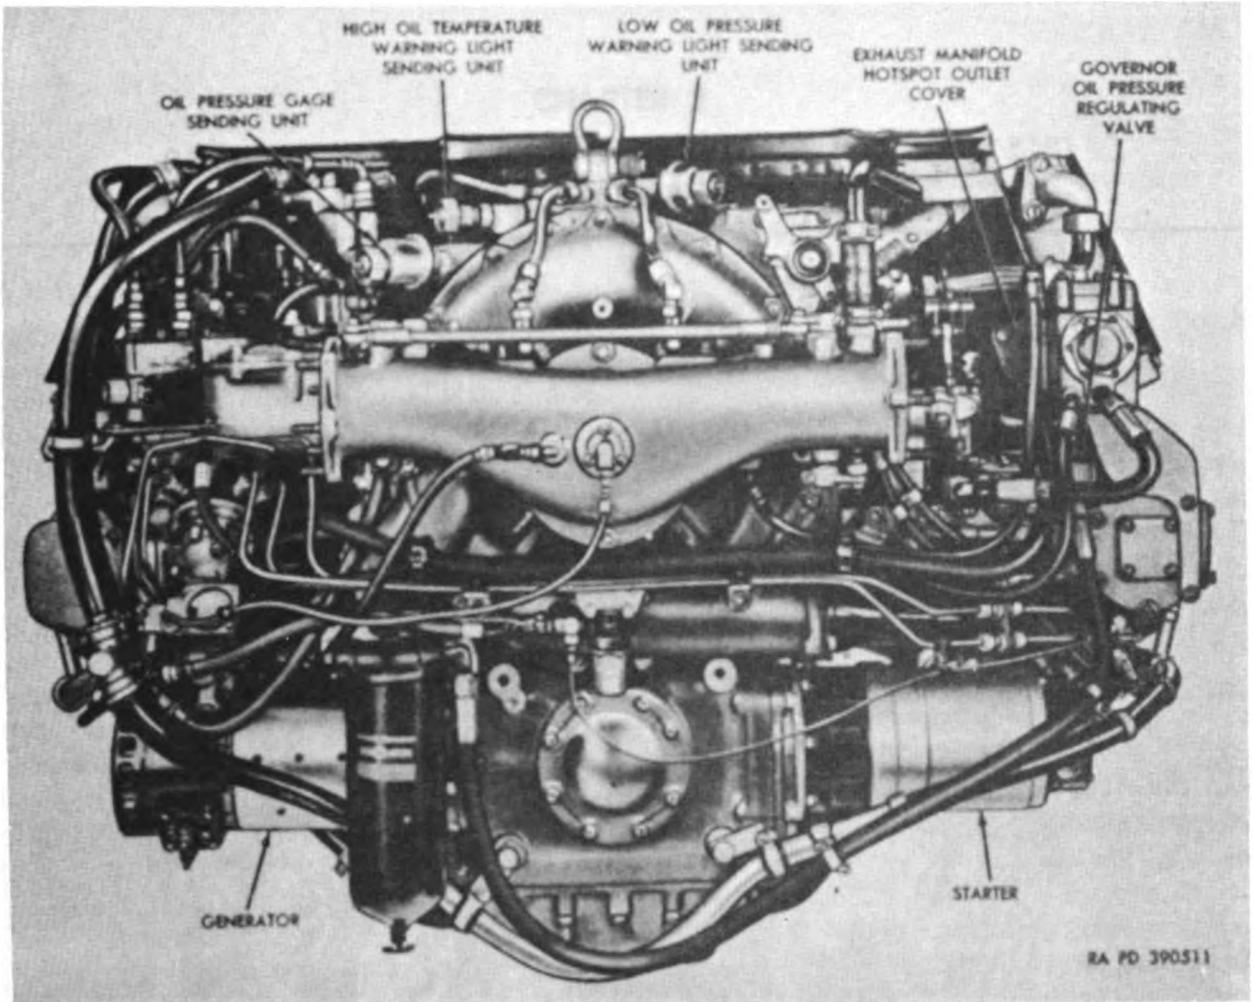

Figure 7. Model AOSI-895-5M engine—front view.
*h.* A generator (fig. 7) and starter are located on opposite sides of the accessory case near the bottom. A mechanically controlled, hydraulically operated governor is located on the right side of the accessory case and controls engine speed within predetermined limits.